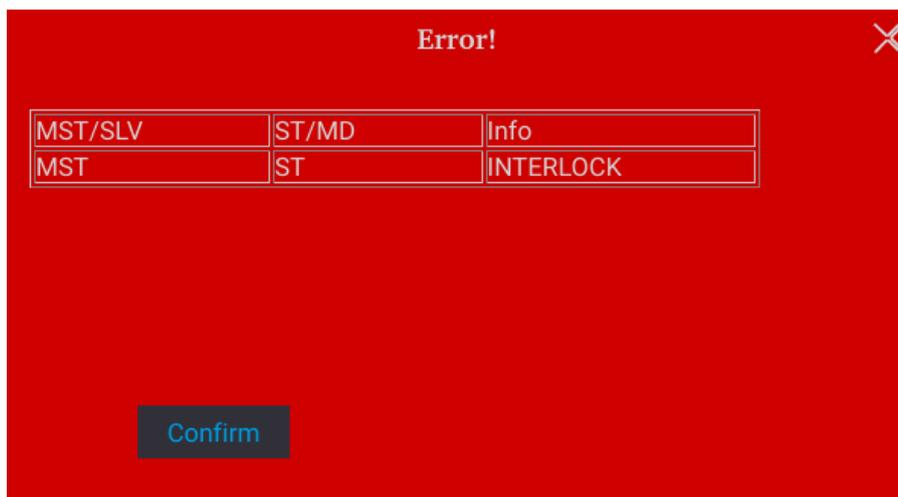

Figure 3-17
2. When protection occurs to Safety InterLock, the main screen will display the protection information, as shown in Figure 3-17.